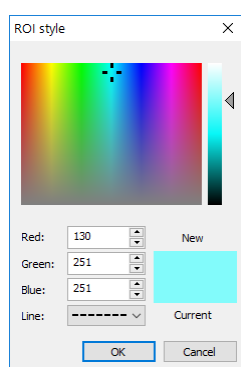

Figure 378 – ROIs style dialog
3. Select the desired color and line style in the dialog (see Figure 378).